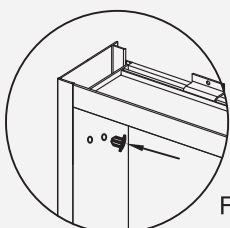

Fig 18
3. Fill the remaining holes with hole plugs (Fig 18). Fill the rest of the shelf clip holes with decorative covers (Fig 19).